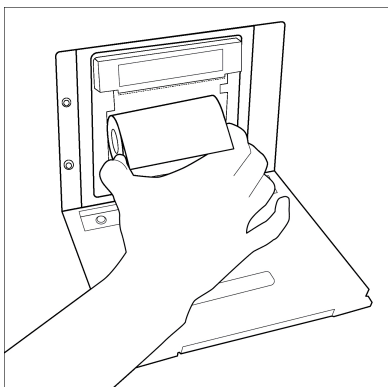

Figure 4-5. Removing the paper roll from the printer
4. Remove the paper roll from the printer (Figure 4-5).